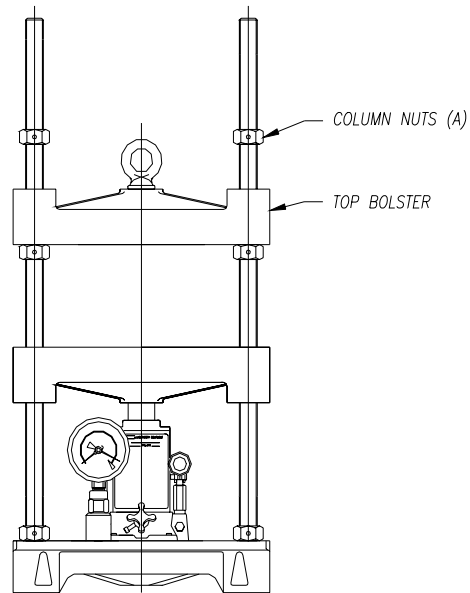

FIGURE 4-4
4. Move the upper column nuts (A) to the position required creating the desired daylight. (FIG 4-4)